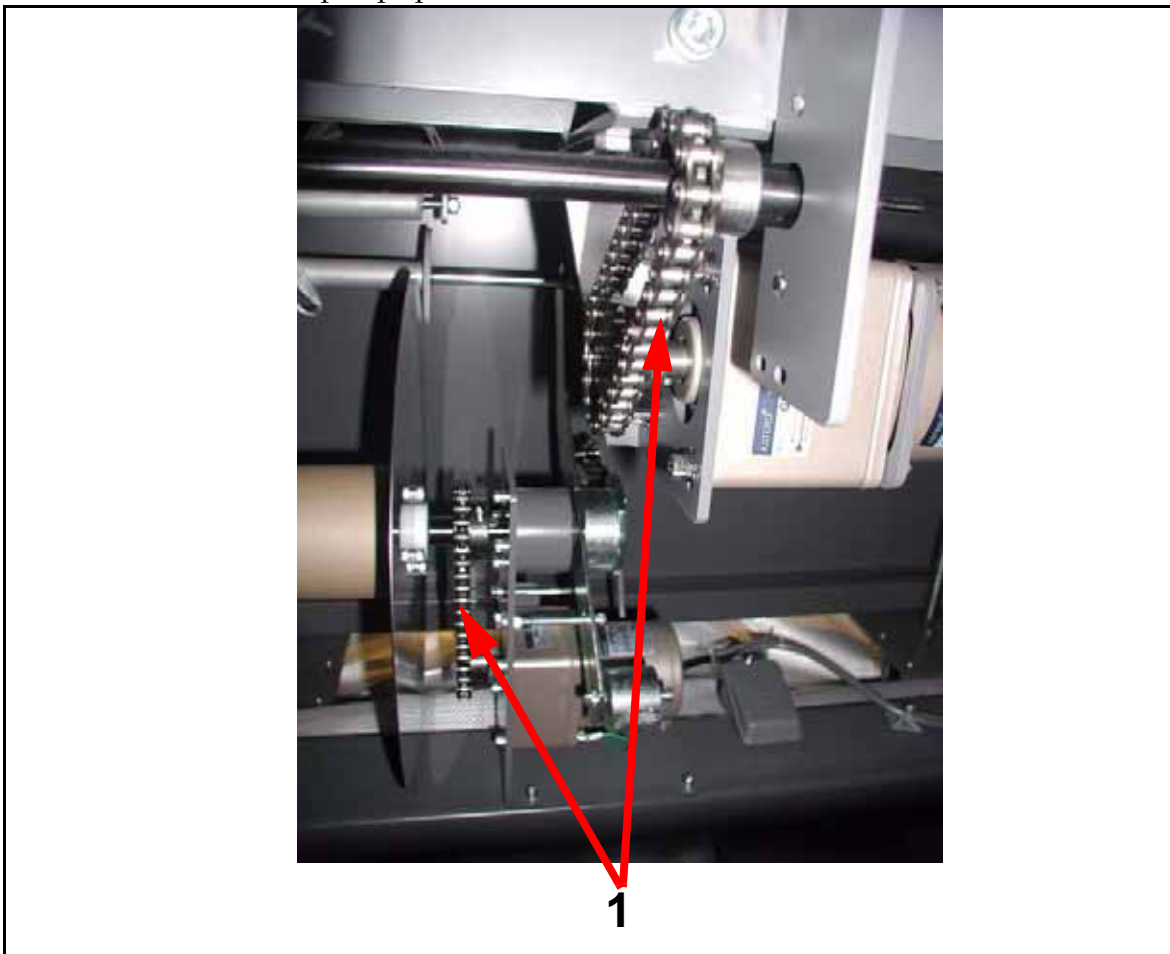

Figure 6-11. Scrap Chains
- 1 Use a small paint brush to apply a thin but thorough coat of oil to each chain (1 in Figure 6-11).